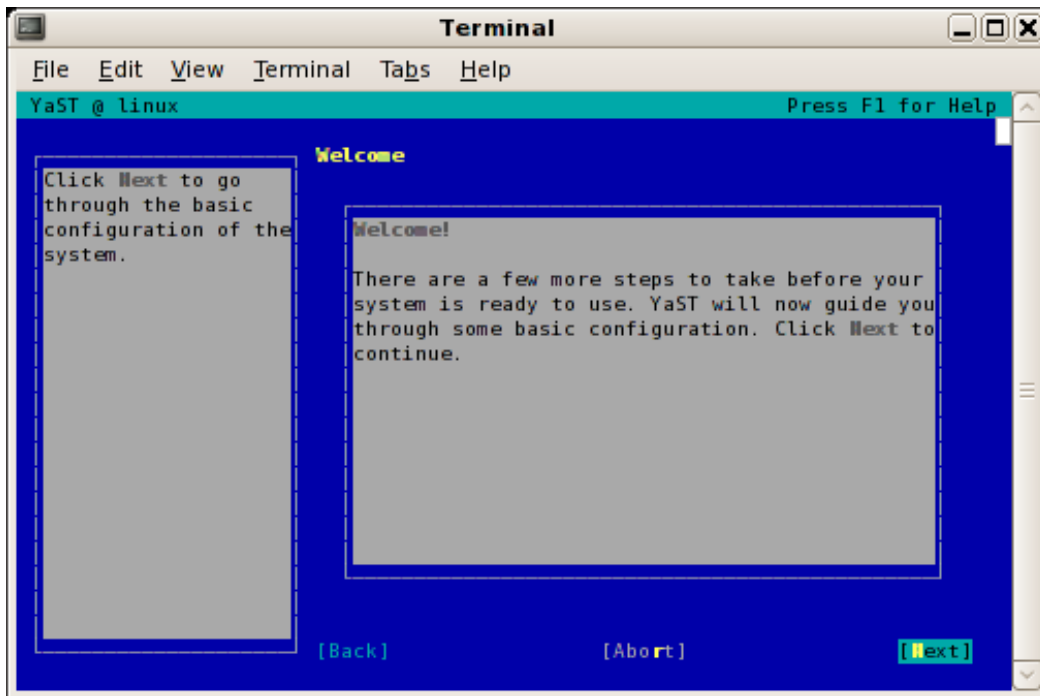

Figure 2-2 YaST **Welcome** Screen
Note: You must connect to the serial console for this boot to answer the firstboot questions, starting with **Welcome** screen as shown in Figure 2-2 on page 30. If you connect to the serial console too late, you can enter `Ctrl -l` to re-draw the welcome screen.
6. After the reboot completes, the YaST first boot installation tool starts and a **Welcome** screen appears, as shown in Figure 2-2 on page 30. Click on the **Next** button to proceed.